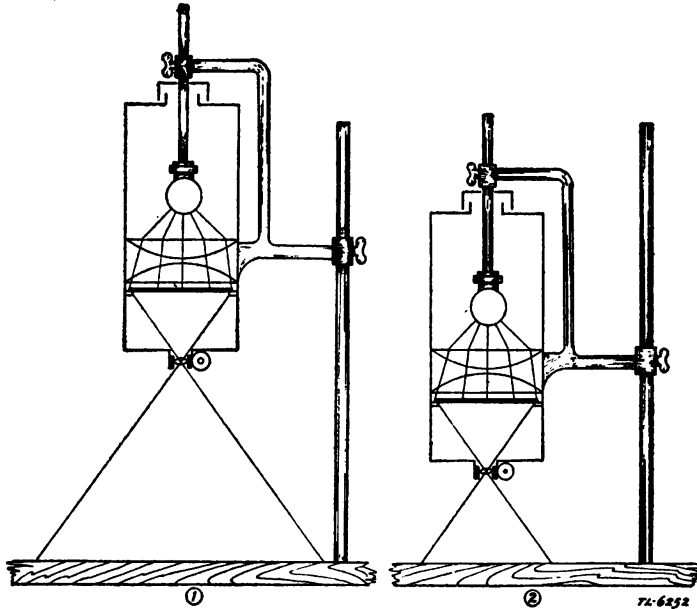

FIGURE 5.—Printer head location for print size selection.
(4) *Mechanics of focusing*.—The size of the projected image depends on the distances between the negative, lens, and paper board, as well as on the focal length. The only variable factor that materially affects print size is the distance between the negative and the paper board. The lens adjustment changes the relation between negative and lens very slightly, and is used only for focusing purposes. The greater the distance between the printer head and the paper board, the larger the size of the projected image. (See fig. 5①.) Conversely, the shorter the distance between the two elements, the smaller the image (fig. 5②). For each selection of print size, the lens must be refocused.